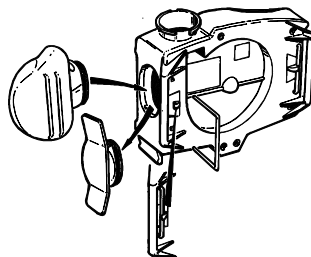

Fig. 2
1. Configure the blower by adding or removing filter adaptors (Fig. 2).